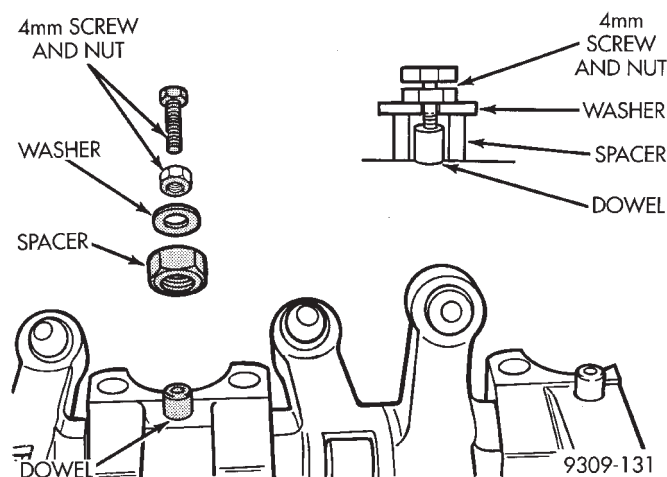

Fig. 8 Rocker Arms and Shaft — Disassembly
(1) Remove dowel pin using a 4 mm screw, nut, spacer, and washer installed into the pin (Fig. 8). Tighten the screw into the pin, then loosen the nut on the screw. This will pull the dowel out of the shaft support. Remove the rocker arms and pedestals in order.
(2) Check the rocker arm mounting portion of the shafts for wear or damage. Replace if heavily damaged or worn.
(3) Check oil holes for clogging with small wire, clean as required.